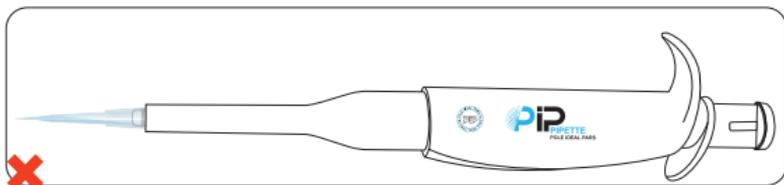

Figure 16. Do not set the pipette aside when the tip is filled
- Do not set the pipette aside when the pipette tip is filled. (figure 16)